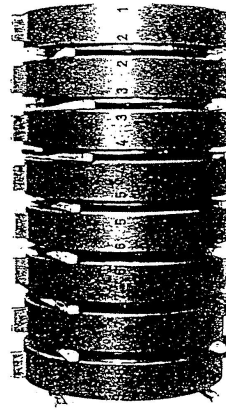

Fig.7 Overlaid Stage Casings
10. Overlay the disassembled stage casings (1080) in such way as protects their sealing surfaces from flaw/damage. (see Fig.7)